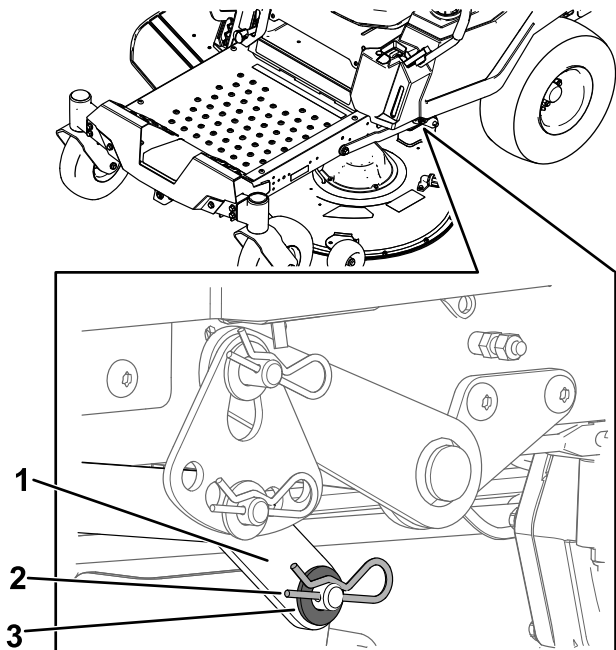

Figure 77
7. On 1 side of the machine, remove the washer and hairpin cotter from the deck pin (Figure 77).
8. Remove the lift arm from the deck pin (Figure 77).
5. On 1 side of the machine, lift the rear of the mower deck and install the lift arm to the deck pin (Figure 77).
6. Install the lift arm using the washer and hairpin cotter (Figure 77).